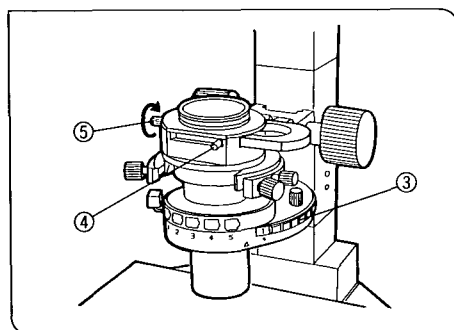

Fig. 101
4. Rotate the turret ③ to select the "BF" brightfield observation light path (no optical element in the light path). (Fig. 101)
5. To engage the polarizer into the light path, move the polarizer lever ④ on the polarizer unit (IX-LWPO) to the right.
7. Loosen the polarizer rotation/clamping knob ⑤ a little by rotating it counterclockwise. Move it horizontally until the total extinction position is obtained.